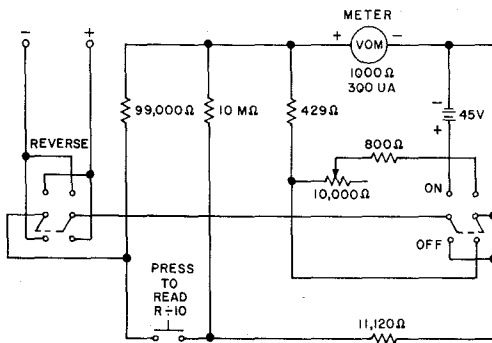

Fig. 2—KS-8455 Test Set (Schematic Diagram)
2.03 Fig. 2 illustrates a schematic diagram of the KS-8455 Test Set. This circuit consists essentially of a microammeter, resistances, a 45-volt battery, and switches which permit setting up a voltmeter or ohmmeter circuit.